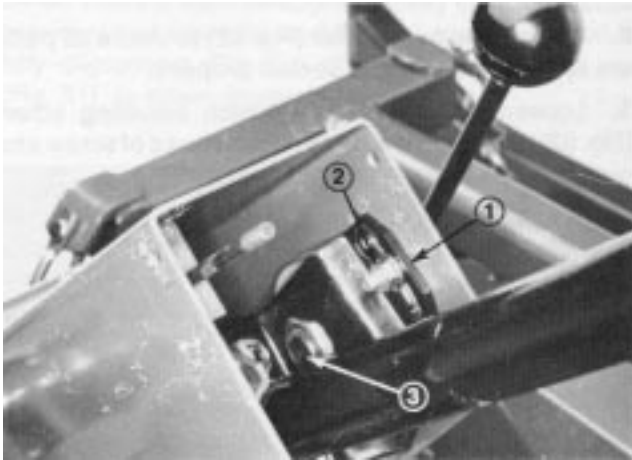

Figure 45
1. Remove knob from parking brake and self tapping screws from steering column cover. Slide cover up steering shaft to expose pivot bracket (Fig. 45).
2. Loosen small nut, rotate pivot bracket until it tightens large nut below (Fig. 45). Retighten small nut.